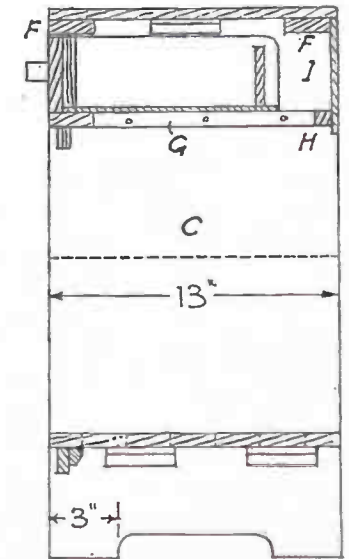

Fig. 3
In Fig. 2 are all the necessary measurements for making, and in Fig. 3 a section through the drawer giving further constructional help. The two ends (A) are 24 ins. long by 13 ins. wide